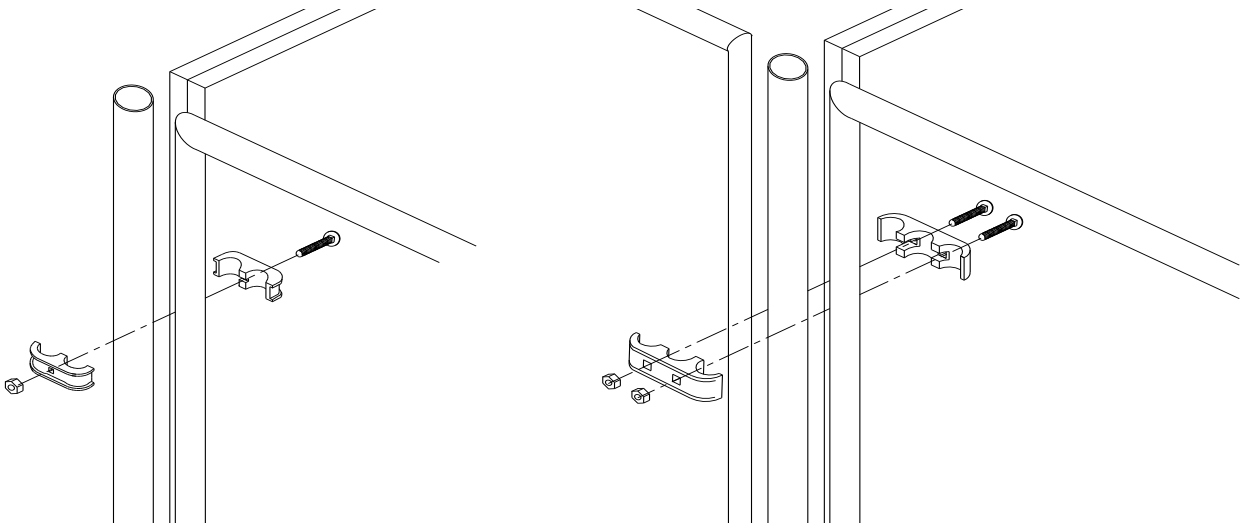

Figure 18.
2. Attach the gate/stall front on the front of each run between the filler pipes with two clamps on each side using the 5/16" x 1-1/2" galv. bolts and nuts provided as shown in Figure 18. Note: It takes two halves to make up one clamp. Attach gates / stall fronts to outside Division Panels using "panel clamps". All other gates/stall fronts will use "triple clamps". **To help ensure the safety of the animals the round head of the bolt should be assembled toward the inside of the run.** Note: The triple clamps attach two gates/stall fronts together. Therefore, you will have to hang two gates/stall fronts at the same time (see Figures 18 and 19).